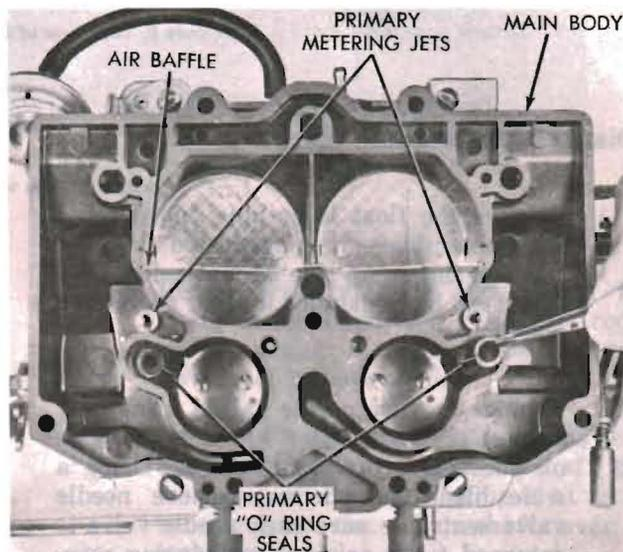
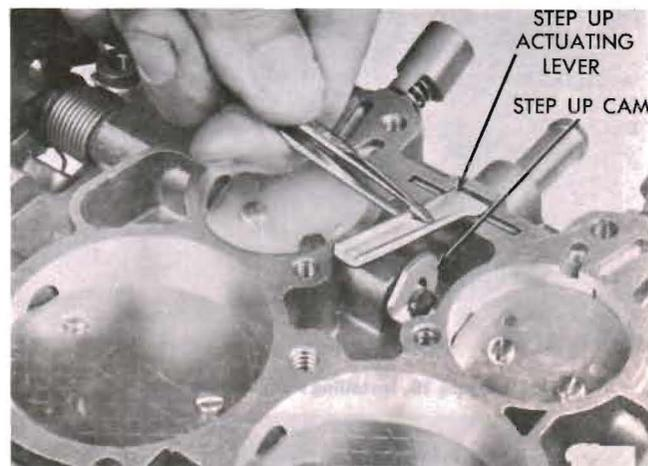

Figure 12. Removing or Installing Primary "O" Rings and Metering Jets—Slide 2171
Figure 14. Step-Up Actuating Lever Installation—Slide 2167, 2168
- (1) Remove primary "O" ring seals and discard. (Fig. 12.)
- (2) Remove primary metering jets. (Fig 12.)
- (3) It is not necessary to remove the baffle plate from the main body.
- (1) Inspect the vacuum diaphragm fitting to make sure the passage is not plugged with foreign material. Leak test the diaphragm to determine if it has internal leaks. To do this, depress the diaphragm stem, then place a finger over the fitting in order to seal the opening. Release the stem and if it moves more than 1/16 inch in ten seconds, leakage is excessive and the diaphragm assembly must be replaced.
- (2) Position the diaphragm and bracket assembly on the locating dowel on mounting surface. Install and tighten one attaching screw.
- (3) Inspect the rubber hose for cracks before installing it on the correct carburetor fitting (fitting next to diaphragm bracket). Do not connect the vacuum hose to diaphragm fitting until after the vacuum kick adjustment has been made. (Refer to "Vacuum Kick Adjustment.")
- (4) Install step-up actuating lever with edges up as shown in figure 14.
- (5) Install throttle body gasket and main body.
- (6) Carefully install Primary "O" rings as shown in figure 12.
- (13) Install the accelerator pump passage tube (plastic).
- (14) Examine primary "O" ring seals in bottom of main body to be certain that they are centered over holes (Fig. 12), then carefully lower bowl cover down on main body. The "O" rings will hold the bowl cover up slightly until screws are installed. Be sure bowl vent operating lever engages bowl vent actuating lever. Install ten cover screws and tighten to 50 inch-pounds in two operations.